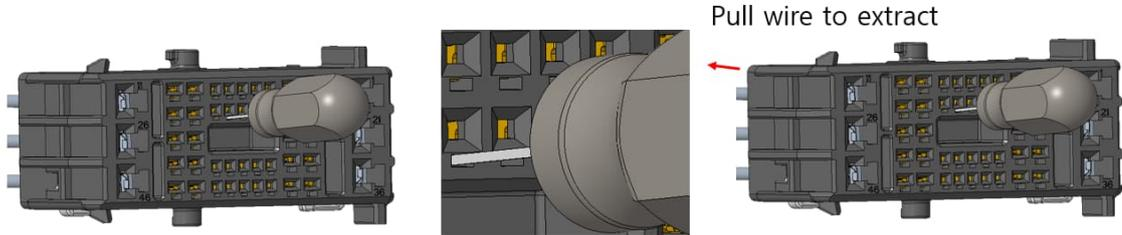

Fig. 13
(1) Confirm TPA is in Pre-Lock condition. In case of Final Lock condition, it is necessary to move it to Pre-Lock condition. It is impossible to extract the contacts under Final Lock condition.
(2) Extract the contact with specified tool inserted into proper hole until stopped at bottom end. (see Fig. 13) (It makes operation easier to press the contact to insertion direction once.)